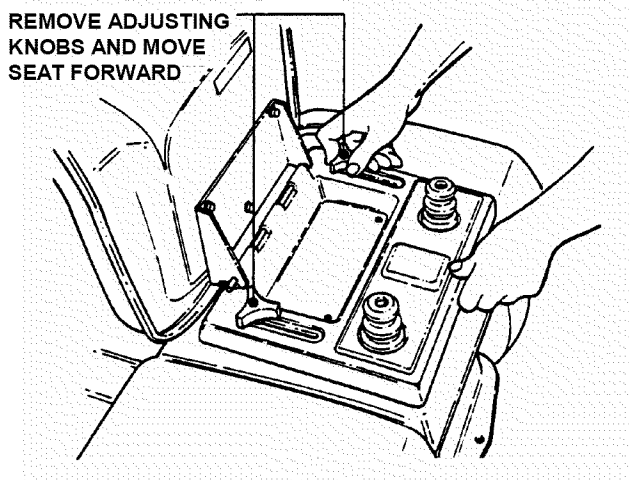

FIGURE 4.37
3. Remove seat assembly and move forward. Use care not to disconnect wires from seat switch. See Figure 4.37.